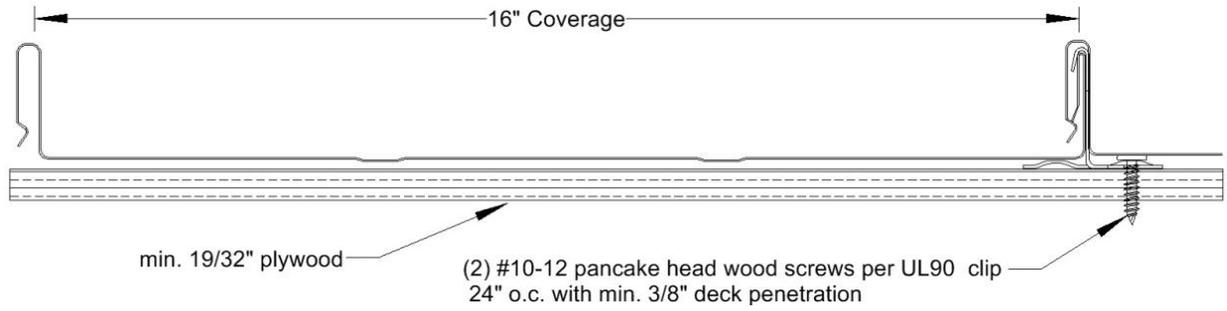
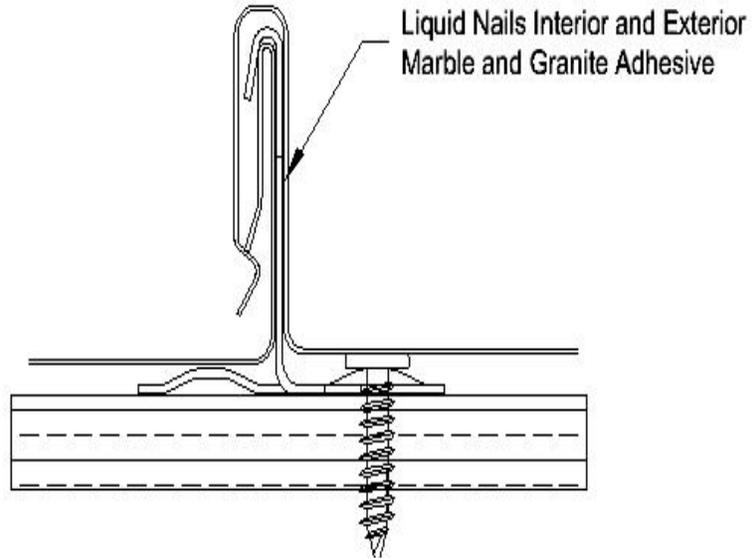

Figure 1: Verti-Lok panel detail for System 1
Figure 3: Verti-Lok Lap Detail
Attachment of Panels to Wood Deck: The metal panels are secured to the roof deck with 3" x 1" x 2", 18 gauge UL 90 clips. The clips are fastened to the deck with two (2) No. 10 x 1" long pancake head screws per clip. Refer to Figures 1 and 2 for panel profile and clip detail. In addition to the clips, Liquid Nails Interior and Exterior Marble and Granite Adhesive are applied in a ¼" bead along the backside of the male lap. Refer to Figure 3 for lap detail with adhesive.